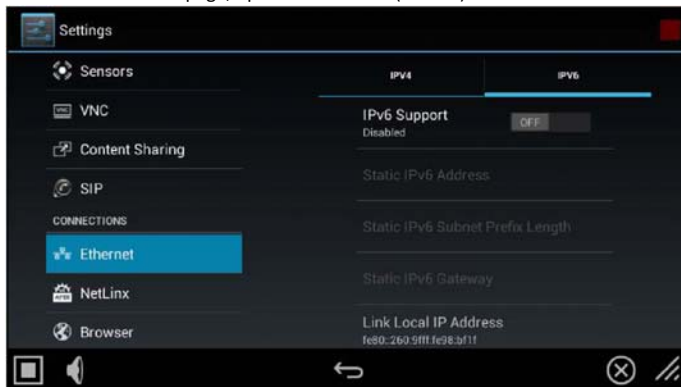

FIG. 57 Ethernet page - IPV6 tab
1. In the Ethernet page, open the IPV6 tab (FIG. 57):